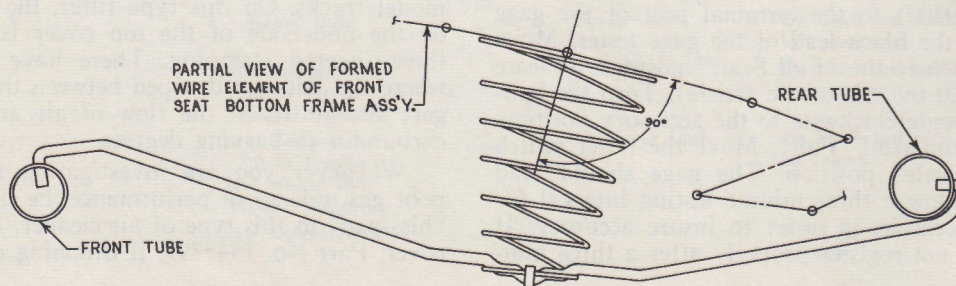

FIG. 3
7. Center punch at each of these 3 locations and drill 1/4" holes through the outer wall of the tubing, holding the drill on a horizontal plane. (See Fig. 3.)